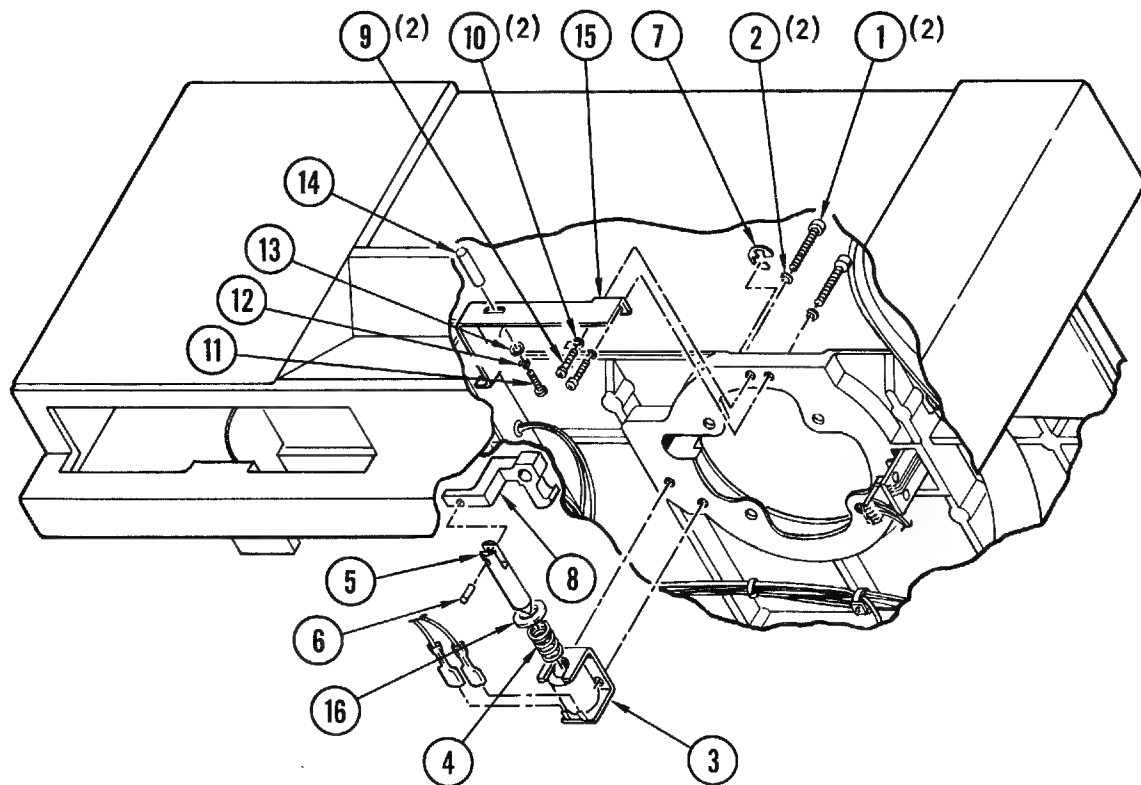

Figure 4-29. Hub Lock Assembly
- c. Remove wire terminals from solenoid (3, Figure 4-29) and identify for reassembly.
- d. Remove two screws (1), and lockwashers (2), and remove solenoid (3) from top plate and spring (4) and washer (16) from solenoid plunger (5).
- e. If plunger (5) or bellcrank (8) must be replaced, remove supply motor in accordance with instructions in paragraph 4-44. Remove retaining ring (7) and bellcrank (8) from motor, and press out pin (6), releasing plunger (5).
4-47. Manual Unlock Assembly (Hub Lock) (Figure 4-29). To replace the manual unlock assembly or one of its parts, proceed as follows:
- b. Remove manual unlock assembly from top plate by removing two screws (9, Figure 4-29) and lockwashers (10).
- c. Remove pin (14) from bracket (15) by removing screw (11), lockwasher (12), and flatwasher (13).